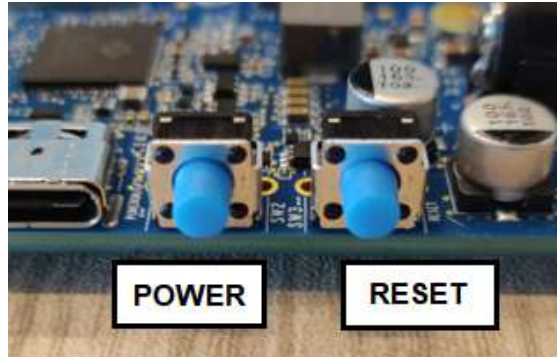

Figure 12. Hailo-15H SBC2.x power and reset buttons
3. Press on the power button to power up the Hailo-15H SBC 2.x See Figure 12 for the location of the button.